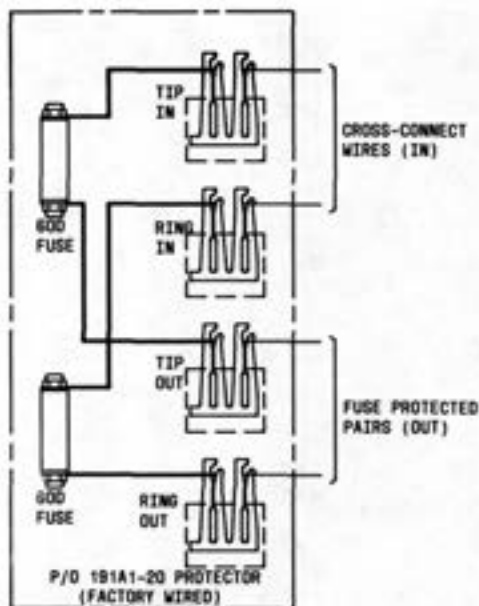

Fig. 86—P/O 191A1-20 Protector—Wiring Diagram
10.10 A wiring diagram of the 191A1-20 protector is shown in Fig. 86. Pairs requiring sneak current protection are cross-connected to the 191A1-20 protector as indicated (TIP IN, RING IN). Factory wiring is provided through the fuses to TIP OUT and RING OUT connectors.